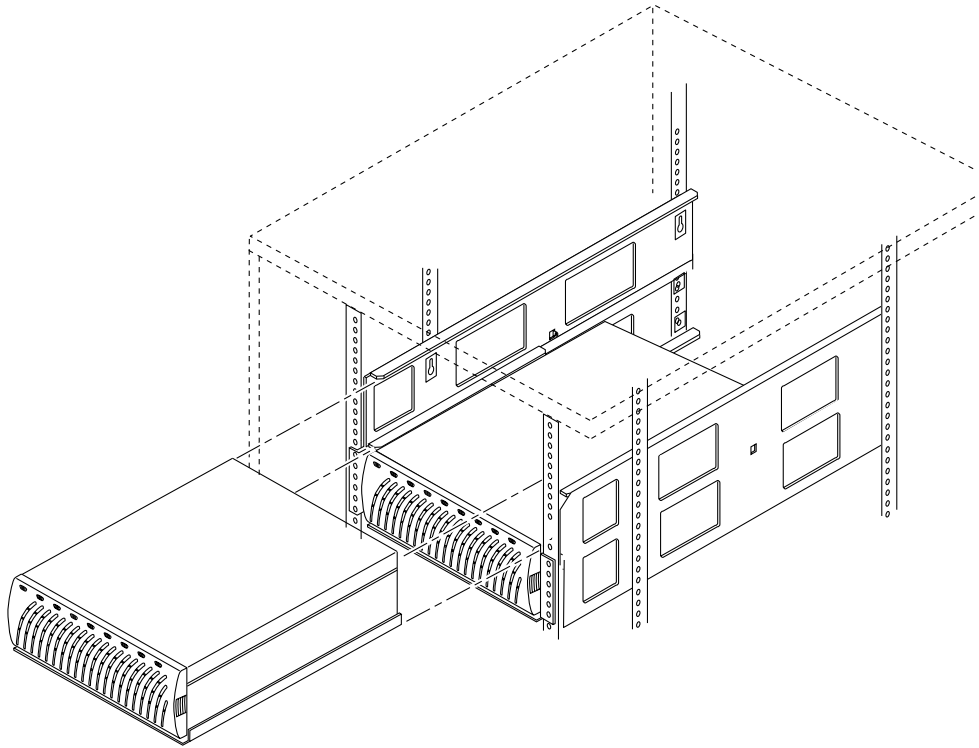

FIGURE 2-9 Installing a Second Disk Tray Into a Dual-Tray Rail
5. If you are installing a second disk tray into a dual-tray rail, repeat Step 1 through Step 4 (FIGURE 2-9).